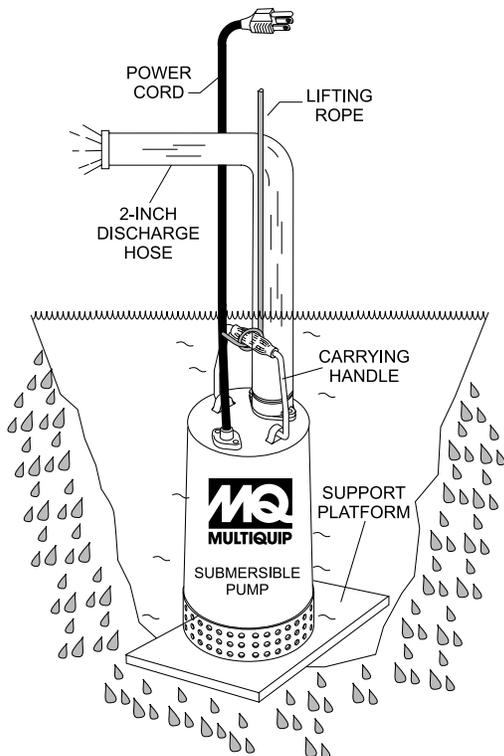

Figure 8. Submersible Pump Upright Position (Correct)
1. Connect a 2-inch (ST-1503A) or 1.5-inch (ST-1503CUL) hose to the discharge port on the pump as shown in Figure 8. Make sure that the hose is attached correctly to the discharge port.
1. Attach a suitable lifting cable (rope) to the carrying handle (Figure 8) on the pump and lower the pump into place. For applications where there is an excessive amount of mud, grit or silt, the use of a support platform is desirable. When pumping water from swimming pool type applications where there is little or no debris, the support platform is not required.